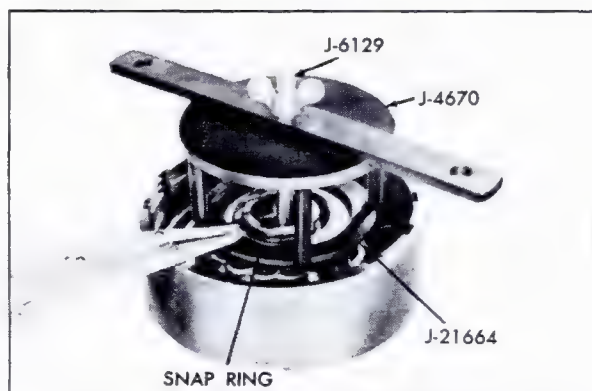

Fig. 7-197 Removing and Installing Direct Clutch Housing Snap Ring
e. Using Clutch Spring Compressor, J-4670, Rear Clutch Spring Compressor, J-6129, or an arbor press, and Adapter, J-21664, Fig. 7-197, compress spring retainer and remove snap ring with Snap Ring Pliers, J-8059 or J-5586.
NOTE: The forward and direct clutch pistons have identical inside and outside diameters. Therefore, extreme care should be exercised during reassembly to assure the proper piston be installed in the clutch assemblies. The forward clutch piston can be identified by the absence of a check ball in the clutch apply face of the piston, Fig. 7-197.